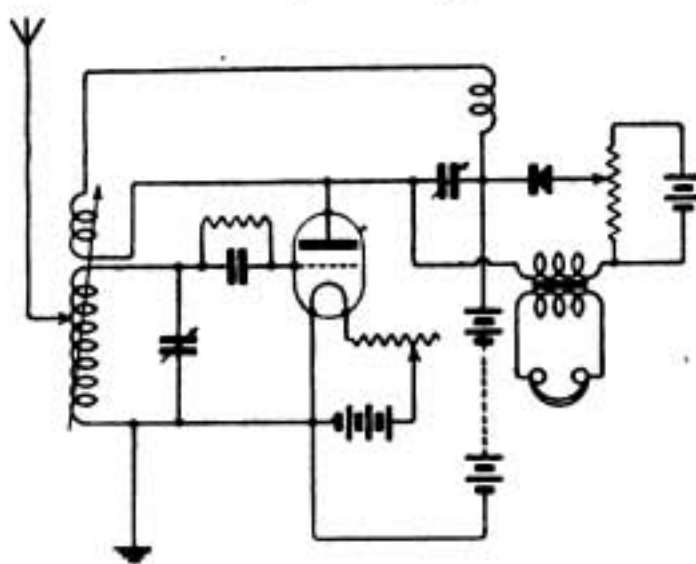

Fig. 3.
(1) Detailed design of a set of this type is outside the scope of these columns. However, a set of this kind is shown in Fig. 3, page 31, April 1st issue, in which transformers may be used for H.F. coupling if preferred. If transformers are used the switching arrangement may be as in the diagram.
Impossible to say. Possibly the valve is defective. However, some of the circuits referred to are of doubtful utility. See Fig. 3.
is rather too little L.F. and too much H.F. amplification. Try the circuit of Fig. 3, page 467, July 8th issue.